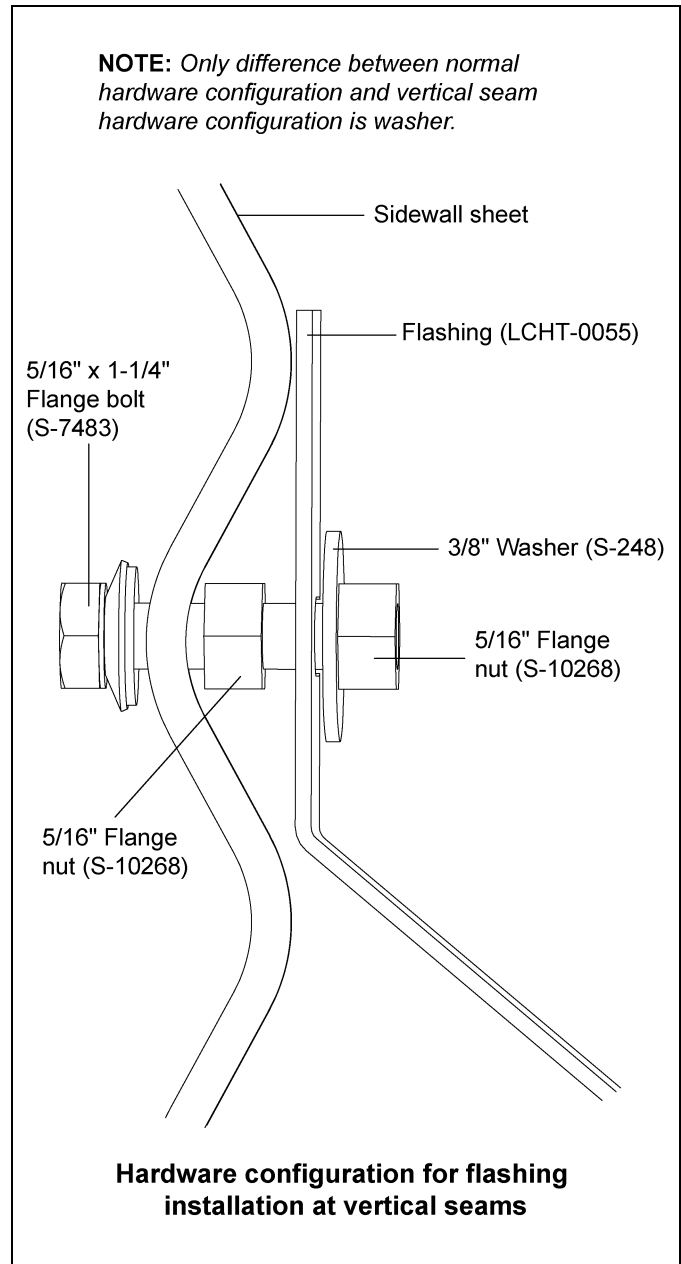
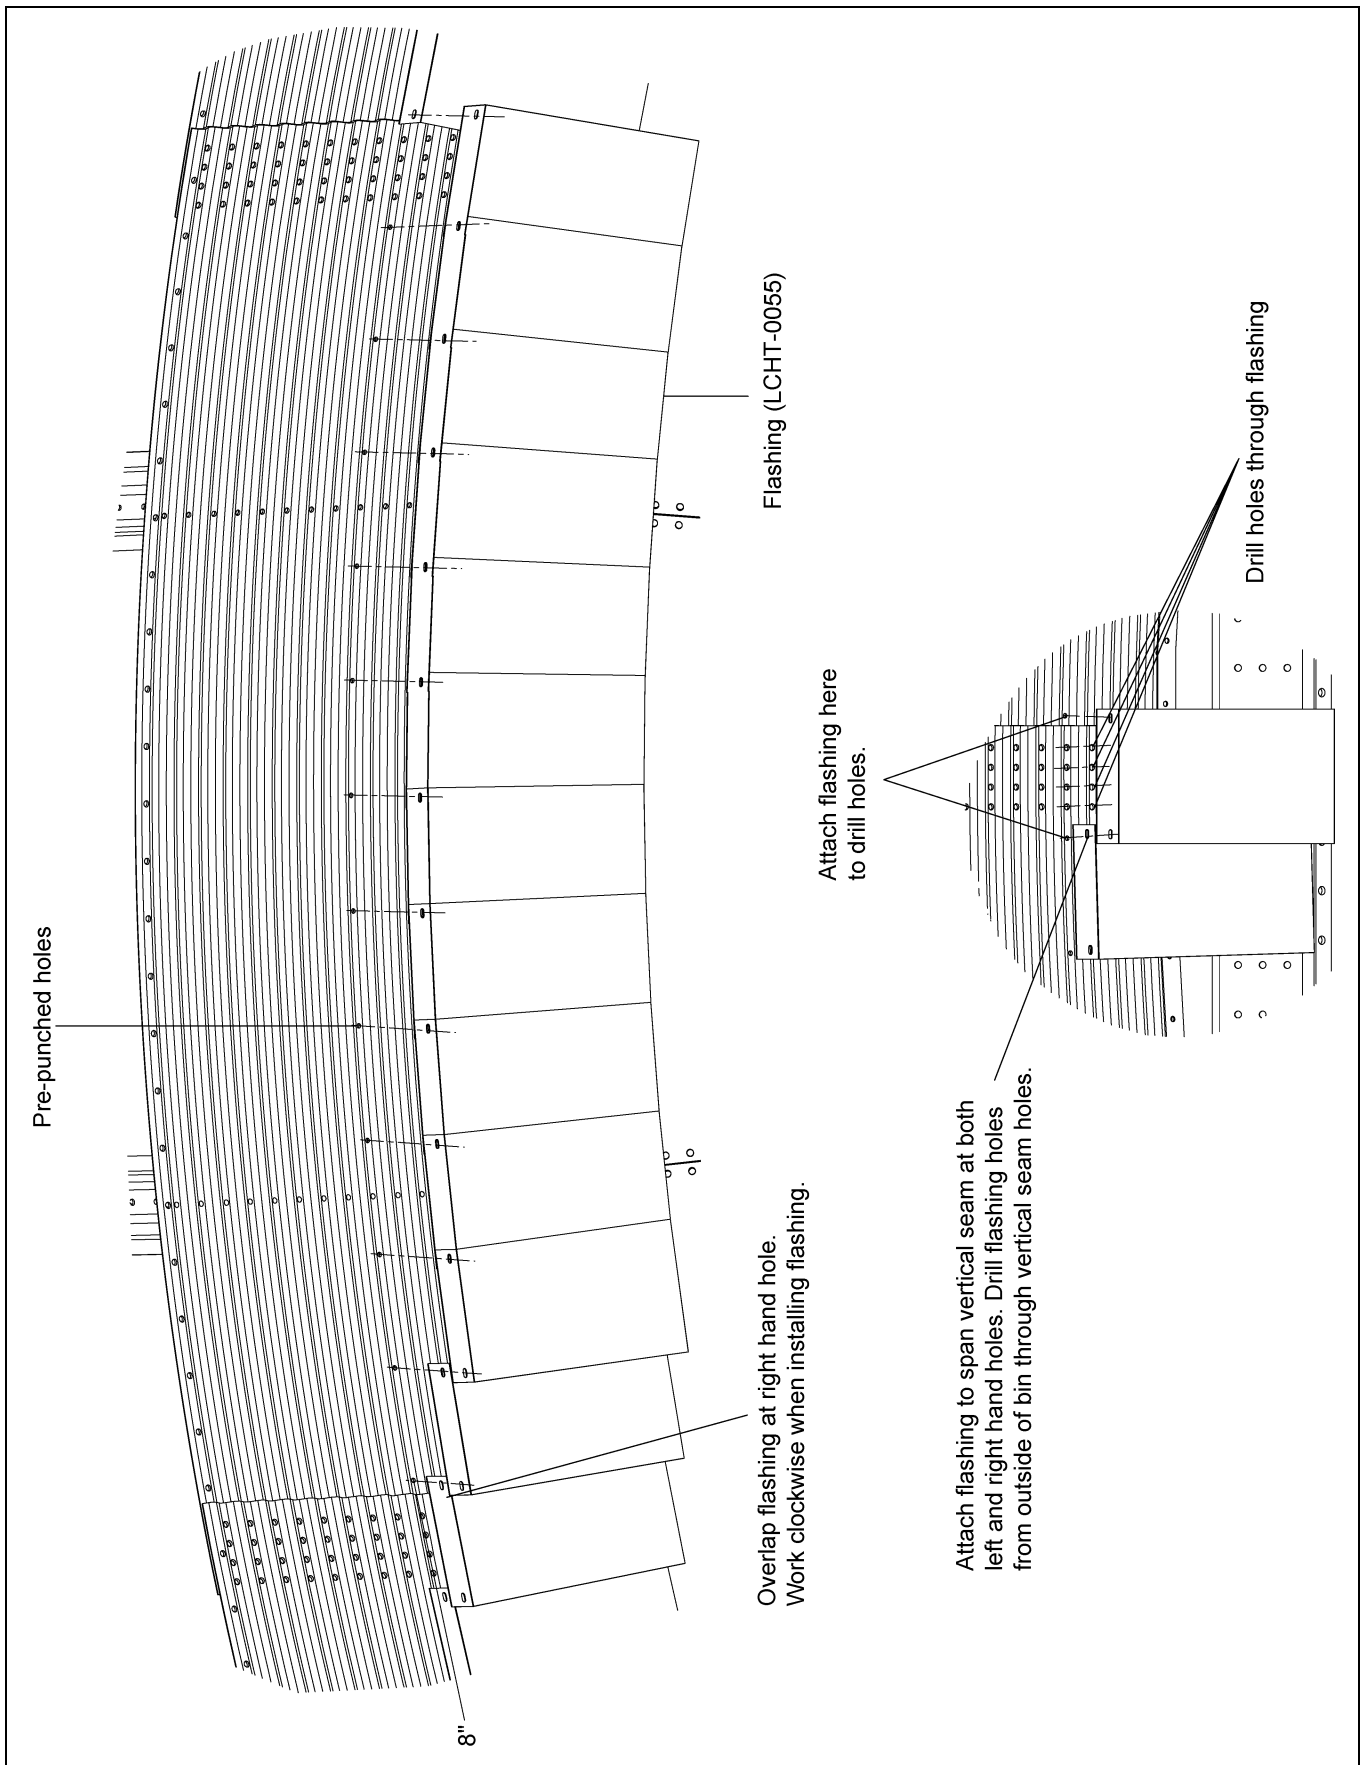

Figure 14B Vertical Seam Flashing Hardware
Figure 14C
3. At vertical seams attach flashing that is to span the vertical seams using both left and right holes. Drill flashing holes from the outside of the bin through the sidewall sheet holes. Remove drilled flashing and assemble vertical seam bolts and nuts. (See Figure 14C on Page 49.) Replace drilled flashing and attach according to Figure 14B. Continue around the bin clockwise.